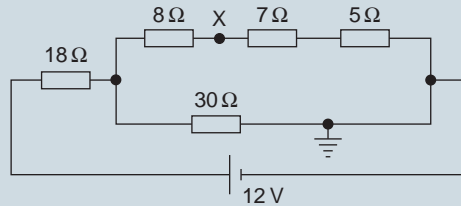

Figure 7.52
2. For the circuit shown in Fig. 7.52, calculate (a) the voltage drop across the $7\text{ }\Omega$ resistor, (b) the current through the $30\text{ }\Omega$ resistor, (c) the power developed in the $8\text{ }\Omega$ resistor, (d) the voltage at point X w.r.t. earth and (e) the absolute voltage at point X.